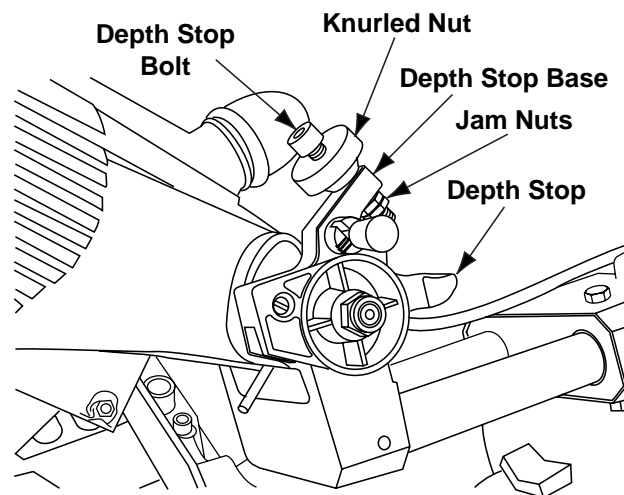

Figure 14. Depth Stop Adjustment
1. Loosen the two (2) jam nuts on the end of the depth stop bolt (Figure 14).
2. Loosen the knurled nut at the top of the arm (Figure 14).